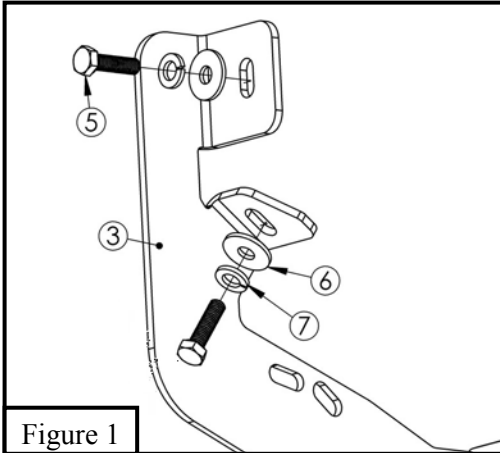

Figure 1
2. Starting on the driver's side. Locate front mounting location and locate (1) mount bracket B and loosely install onto rocker panel using (2) M8 hex head cap screws, (2) M8 flat washers and (2) M8 lock washers. See **Figure 1**.